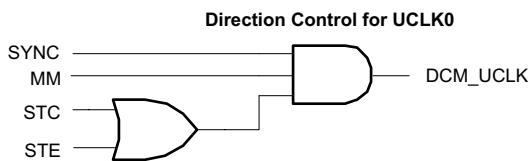

Figure 6-12. Direction Control for UCLK0
(1) Timer\_A3
(2) USART0 (also see Figure 6-12)